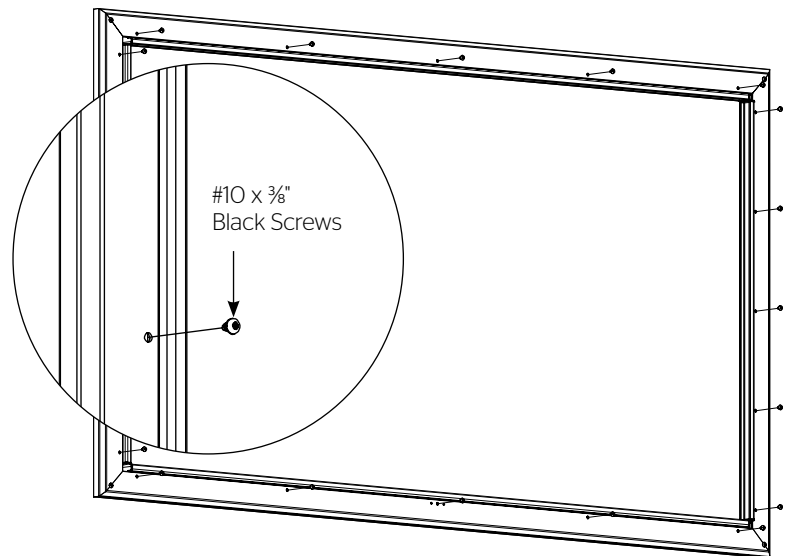

Figure 5
3. Secure the outer bezel to the inner frame by inserting the #10 x  $\frac{3}{8}$ " black screws into each of the large holes on all four sides of the screen (Figure 5).
**Note:** The long outer bezel side with (2) or (4) small holes will be the bottom of the screen. Do not insert screws in these holes as they will be needed for the next step.